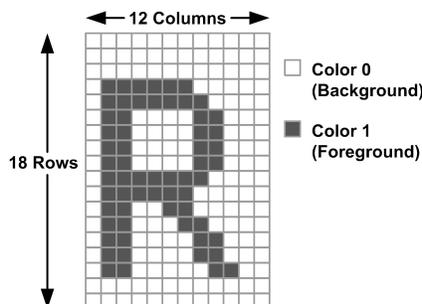
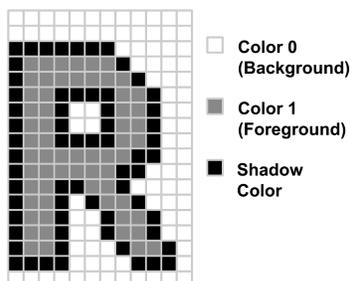

Figure 17. Two-Color Character
Figure 24. Bordering
Each character is defined as a 12 column by 18 row matrix of picture elements, or “pixels”. The character font is shown in Figure 17 through Figure 24. There are two types of characters defined in the character ROM:
1. Two-color: There are a total of 384 two-color characters in 6 banks (banks 0, 1, 2, 4, 5 and 6). Each pixel of these characters is defined by a single bit value. If the bit value is 0, then the color is defined as “Color 0” or the “background” color. If the bit value is 1, then the color is defined as “Color 1”, or the “foreground” color. An example of a character is shown in Figure 17. The grid lines are shown for clarity to delineate individual pixels and are not part of the actual displayed character.
4. **Bordering**—A border can be added to the two-color characters. When a character is bordered, a border pixel is added at every horizontal, vertical or diagonal transition between color 0 and color 1. See Figure 24. The color of the border is determined by the value in the color palette register EF3 (normally black).